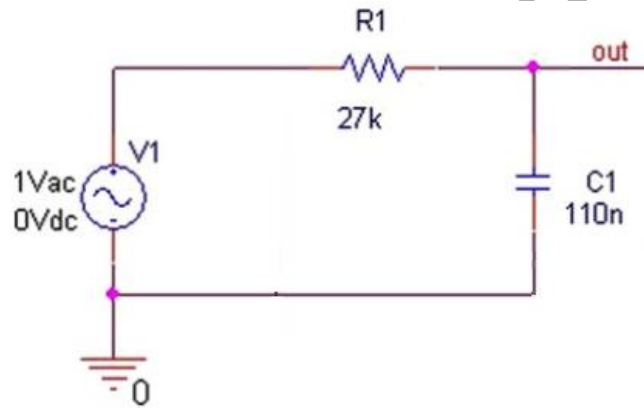

Figure 4 RC LPF
- 2- Open the schematic page and draw the circuit of the LPF in Figure 4. The VAC source can be found in the source library.